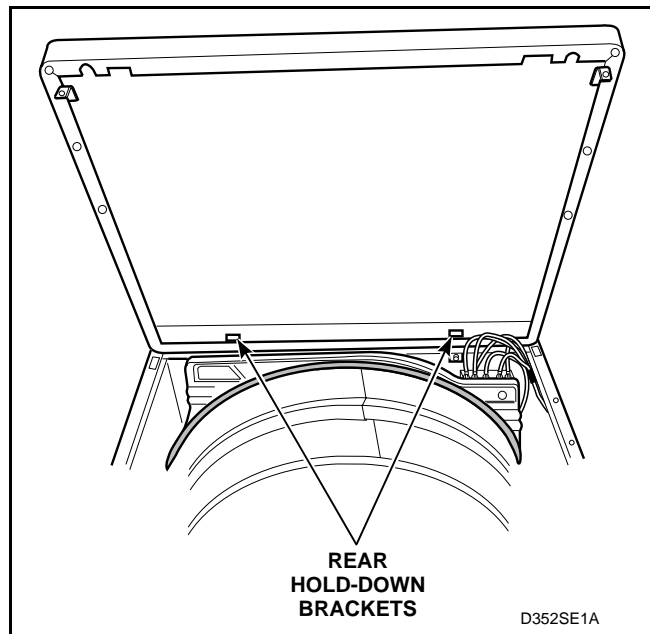

Figure 30
- Lift cabinet top to a vertical position by hinging it on the rear hold-down brackets. See *Figure 30*.